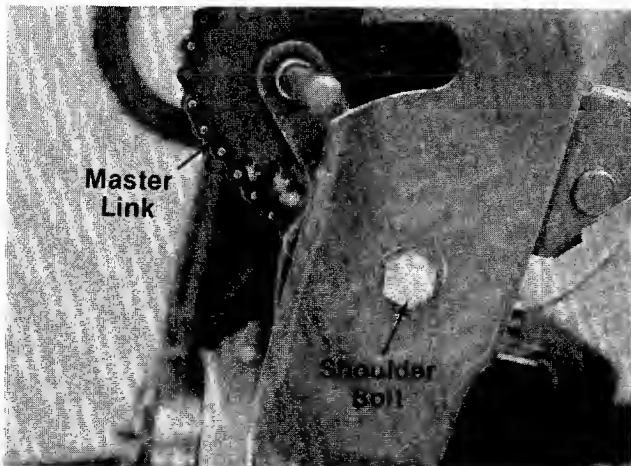

FIGURE 23.
9. Remove the large shoulder bolt and master link on the chain. See figure 23.